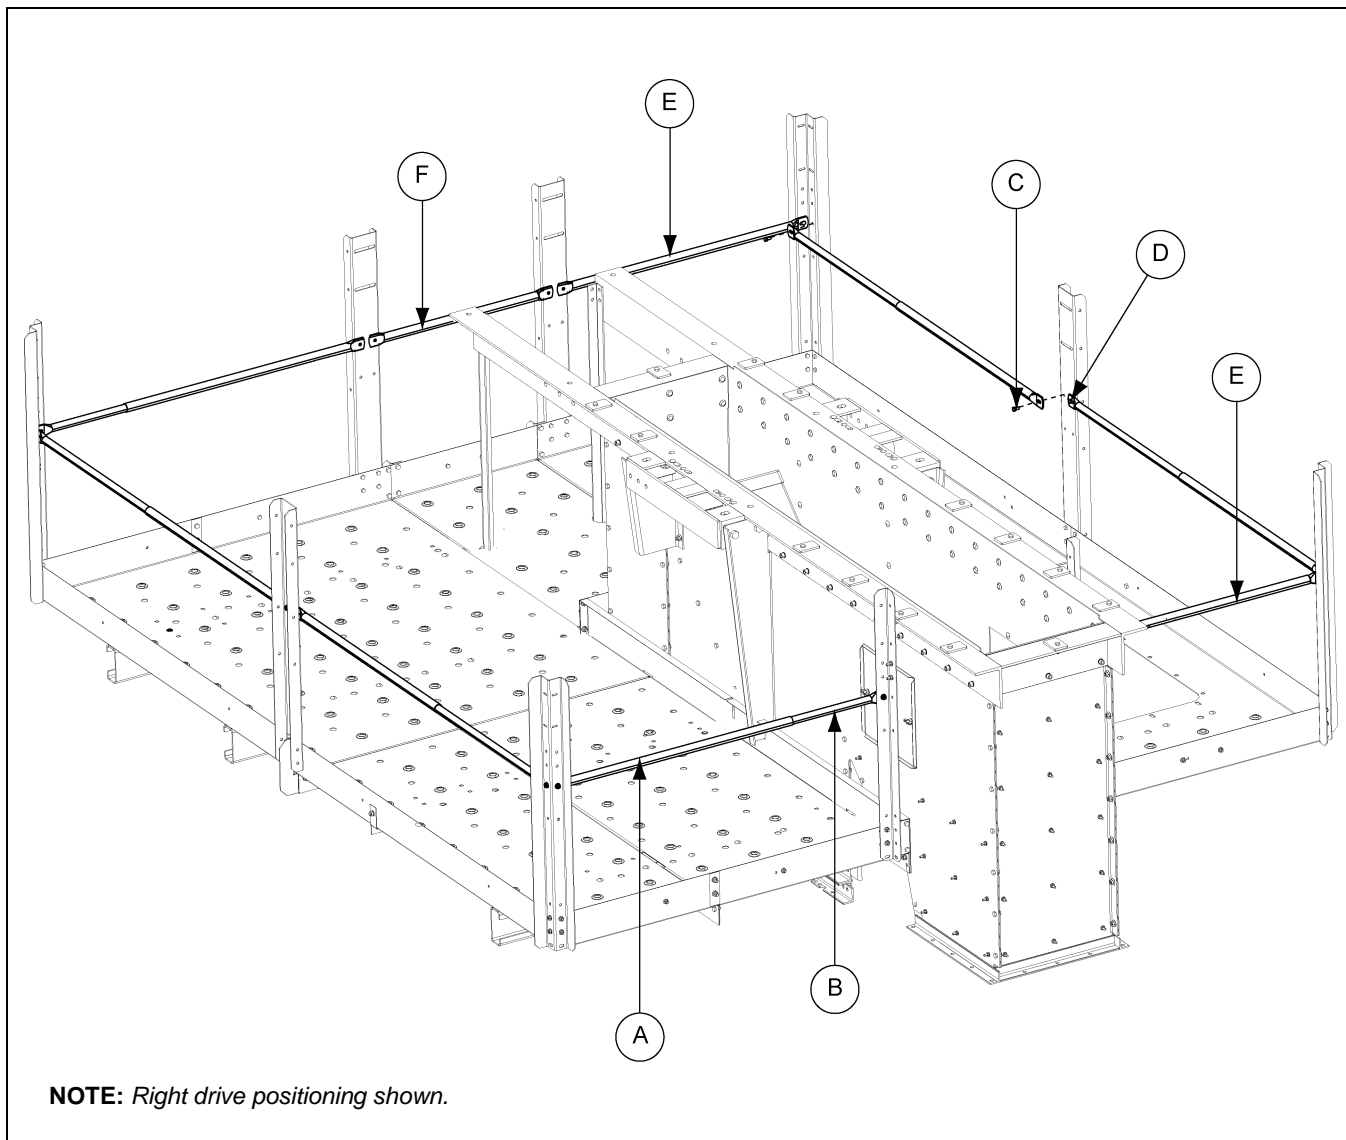

Figure 10K
3. Install the remaining Intermediate handrails around the platform using 5/16" x 3/4" bolts (S-6606) (C) and nuts (S-3611) (D). (See Figure 10K.)